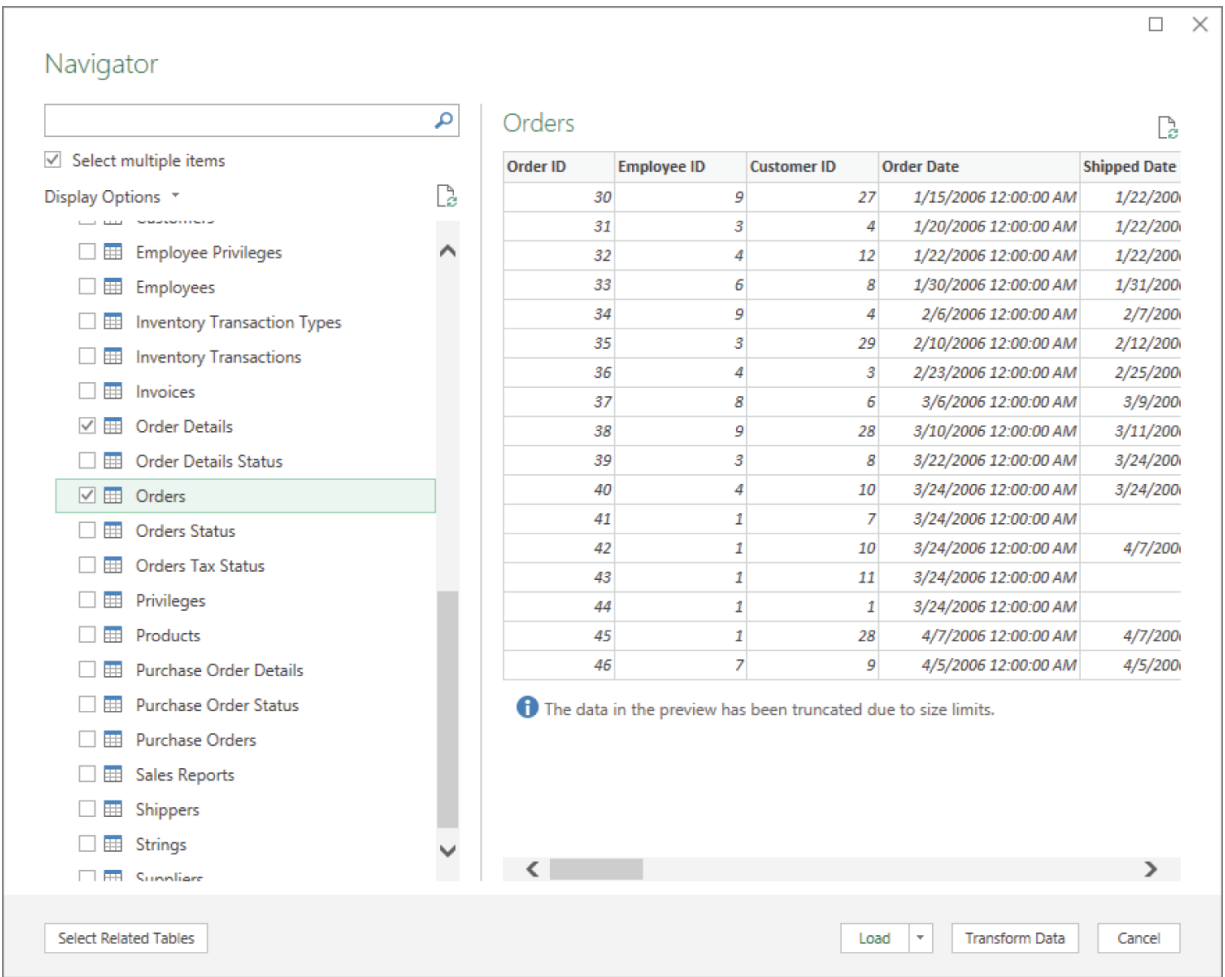

Figure 3.37: Click the Transform Data button on the Navigator dialog.
5. Click the Transform Data button at the bottom of the Navigator dialog as shown in Figure 3.37.